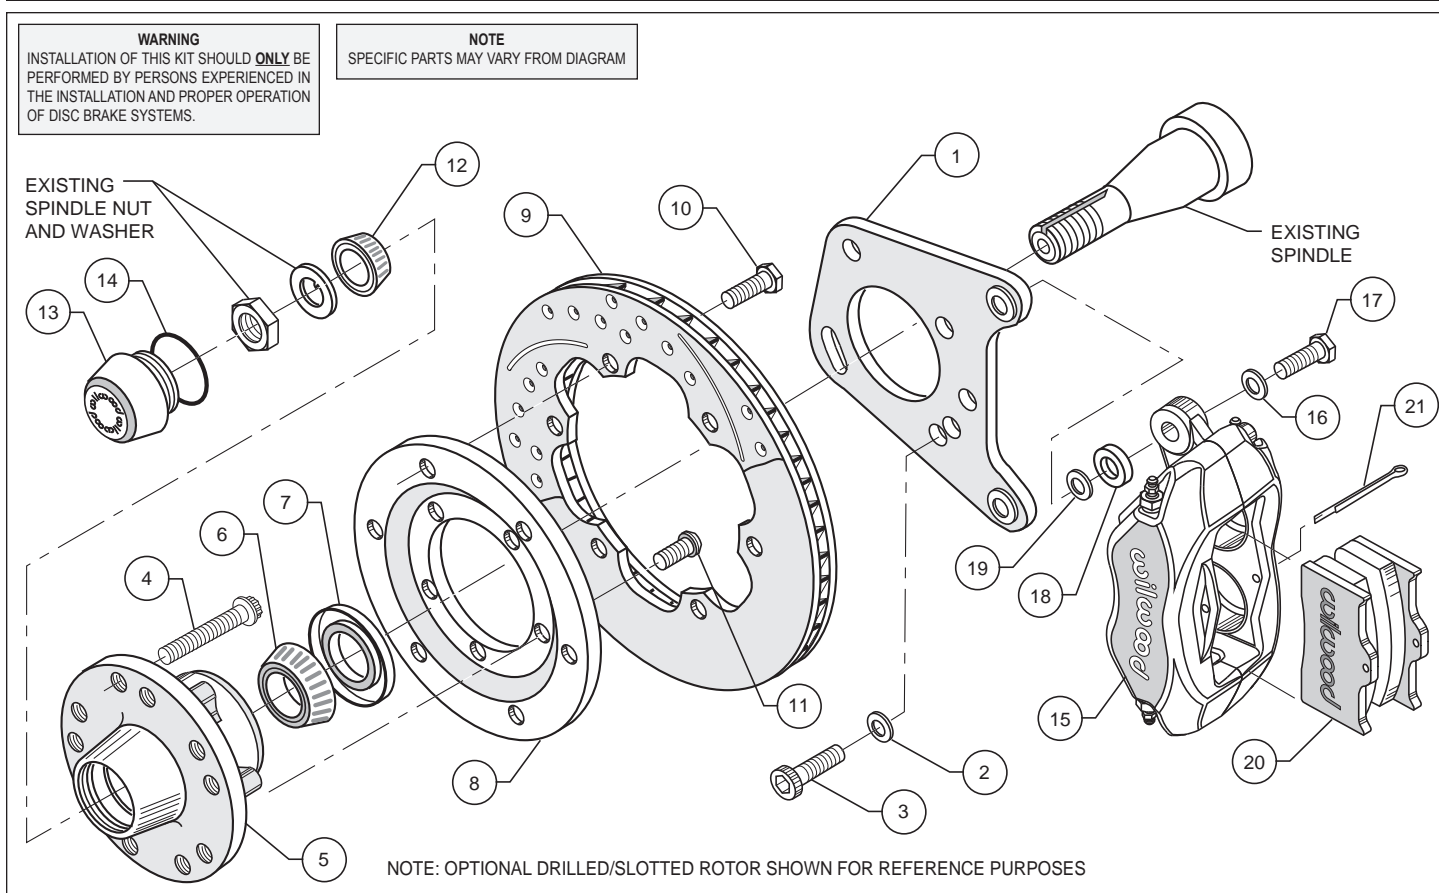
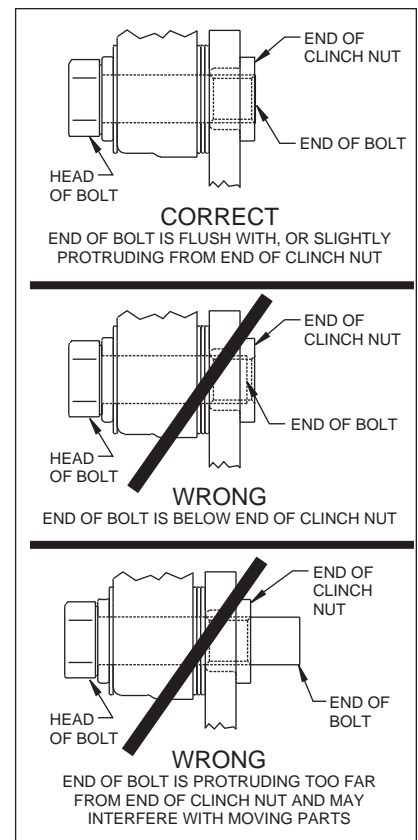

Figure 1. Typical Installation Configuration
Figure 4.
- Mount the adapter/rotor assembly (8/9) to the hub (5) using bolts (11) (finger tight), as shown in Figure 1. Using an alternating sequence, remove bolts one at a time, apply red *Loctite*® 271 to the threads, and torque to 55 ft-lb.
- Pack the small outer bearing cone (12) with high temperature disc brake bearing grease and install into front of hub (5). Slide the hub/rotor assembly (5 and 9) with outer bearing cone (12) onto the spindle. Secure using stock washer, adjusting nut and nut locking device. Adjust bearings per Original Equipment Manufacturer (OEM) specifications.
- Install the dust cap (13) onto the hub (5). Friction created by the o-ring (14) on the dust cap (14) keeps it from unscrewing. The O.D. of the existing spindle washer may be larger than the I.D. of the dust cap (13) not allowing it to seat against the hub face. Some grinding on the washer O.D. may be necessary to clear the I.D. of the dust cap (13).
- NOTE:** Please reference the caution statement at the beginning of the assembly instructions. Mount the caliper (15) onto the caliper bracket (1) using washers (16), bolts (17) and caliper spacer (18). Finger tighten. View the rotor (9) through the top opening of the caliper (15). The rotor (9) should be aligned in the center of the caliper (15). If not, adjust the caliper (15) by using 0.032 inch thick shims (19) placed between the caliper mounting bracket (1) and the caliper spacer (18). Finger tighten and recheck alignment. Add as many shim washers (19) as necessary to achieve the correct alignment. **NOTE:** The end of the bolt must be flush with or slightly protruding from the head of the clinch nut. See Figure 4. Place spare shims (19) between washer and caliper mounting ear to achieve the proper mounting fastener configuration. Always use the same amount of shims on both the top and bottom caliper mounting bolts (17). Apply red *Loctite*® 271 to bolt threads (17) and torque to 40 ft-lb. Caliper mount bolts may be safety wired for additional security.
- Install the disc brake pads (20) and secure using cotter pin (21).